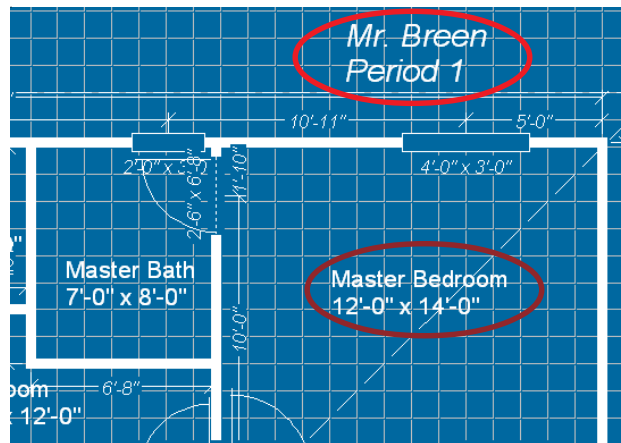

Figure 26
- Click** in the center of a room and use a keyboard to enter in the information. Label each room and put the dimensions of the room as shown in **figure 26**.